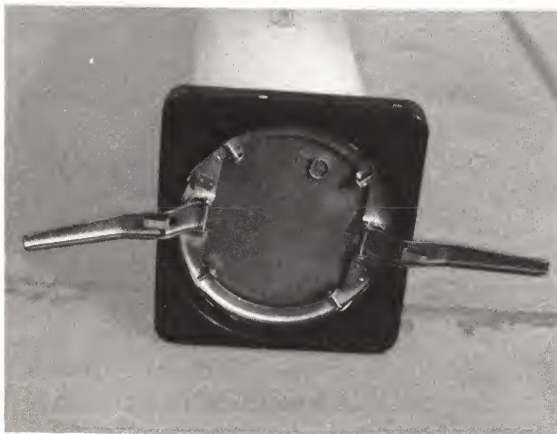

Figure 21 - Launcher with Handles Extended for Manual Handling.
1. Swing locking-ring handles outward until the latches engage the shock pans, figure 21. This step provides a means for lifting the launcher to the bomb rack.